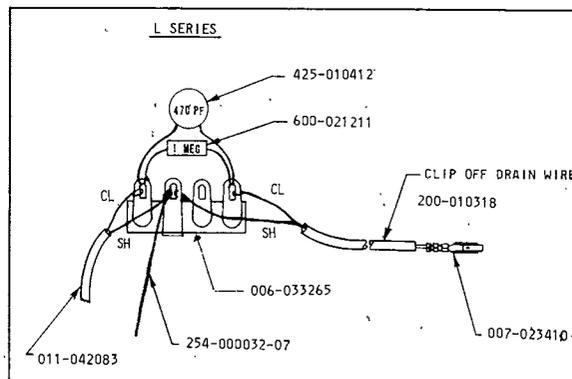

Figure A-7.
terminal strip as shown in Figure A-7, using 470 pf capacitors, 425-010412, and 1 meg. resistor 600-021211.
4. Solder free ends of wire to terminal strip assembly as shown in Figure A-7.
6. Assemble connector pin 007-023410, to one end of shielded lead, 200-010318, as shown in Figure A-7. Solder other end of shielded lead to terminal strip as shown in Figure A-7. Connect pin into the six-pin plug located toward the right (rear view) of the organ preamplifier chassis. Correct position is the vacant one between gray and green wires.
3. Insert phone plug of wire and plug assembly, 011-042083, into phone jack on voice generator assembly. Solder free ends of wire to terminal strip assembly as shown in Figure A-7.
4. Connect 22 ga. black wire 254-000032-07 from terminal strip assembly to any convenient ground lug on organ. See Figure A-7.
10. Assemble connector pin 007-023410, to one end of shielded lead, 200-010318, as shown in Figure A-7. Solder other end of shielded lead to terminal strip as shown in Figure A-7. Connect pin into the six-pin plug located toward the right (rear view) of the organ preamplifier chassis. Correct position is the vacant one between gray and green wires.